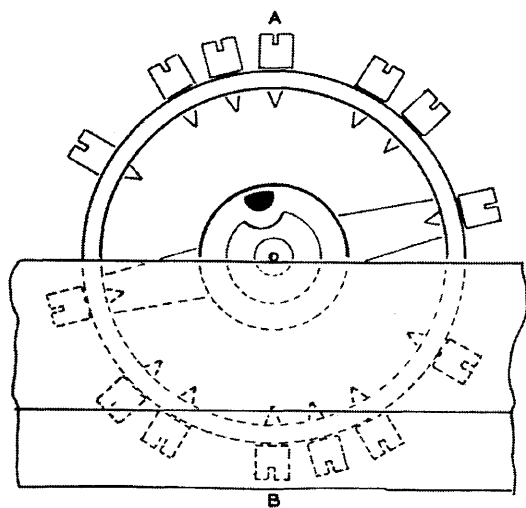

Fig. 17-3
3. If the wheel is out of poise the heavy side will be at the lowest point on the rim B, figure 17-3.
5. Adding weight to the screw A opposite the heavy side A, figure 17-3, will obtain the same result.